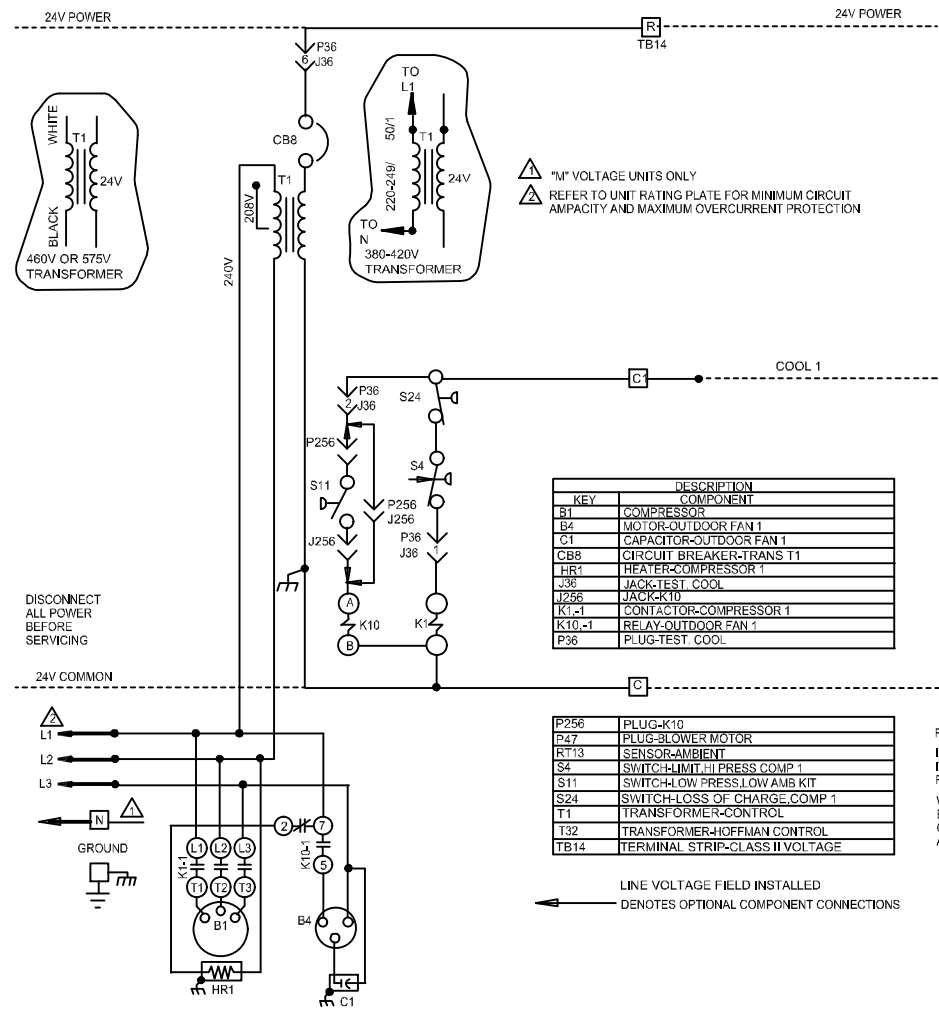

Figure 7. TSA 072S4S and TSA 090S4S G, J, M, and Y Voltages) Typical Wiring Diagram
- C** Make control wire connections using field provided wire nuts. See figures 7 through 10 for connections requirements.